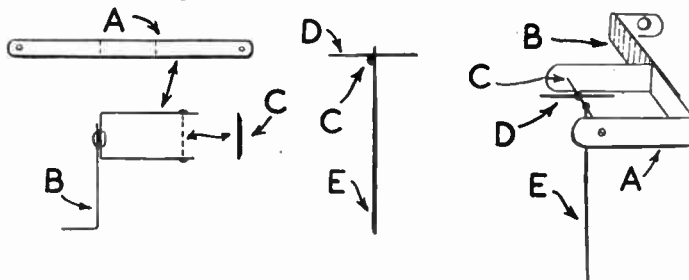

Fig. 3—Details of the important parts
Fig. 3 will enable the most critical part of the meter to be made up easily. (A) is a strip of thin metal about 1 $\frac{1}{2}$ ins. long. Make a small depression near each end by placing the strip on a piece of wood and using a sharp-pointed nail as punch. When the strip is bent as shown, the ends of the pivot (C) rest in